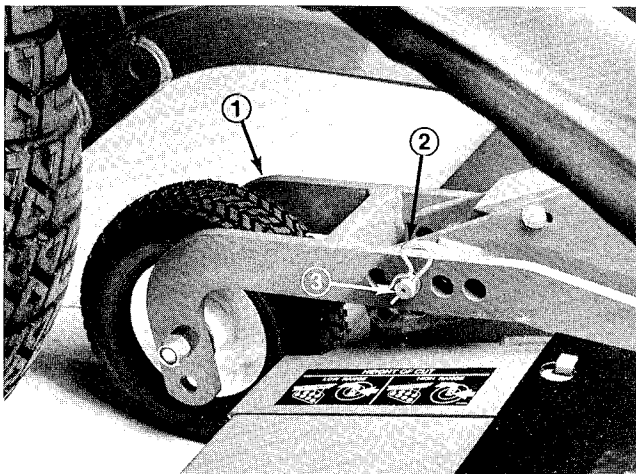
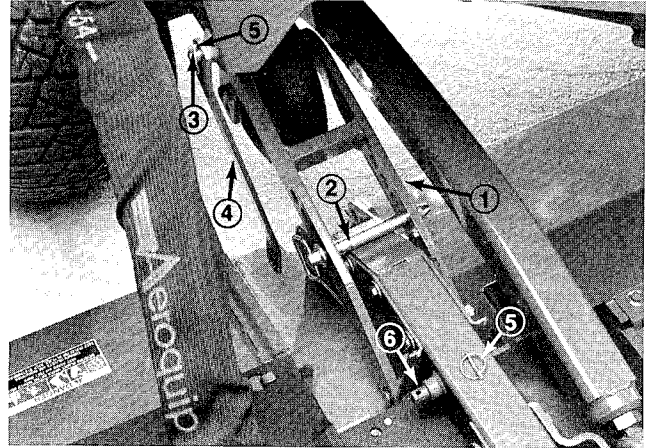

Figure 58
Figure 59
3. Remove hairpin cotter and clevis pins from the (2) rear castor assemblies (Fig. 58). Set the left hand clevis pin aside and insert the right hand clevis pin into the most forward holes in the castor wheel arm on the right side of the unit (Fig. 59). The castor arm and pin should be resting on top of the unit.
5. Fit deck tilt link over weldment on the right side of traction unit and secure with klik pin. Position link so it clears when cutting unit is raised. Keep remaining klik pin handy to secure opposite end of link to cutting unit arm weldment (Fig. 59).